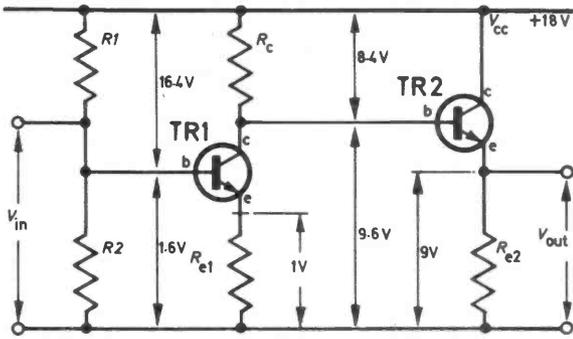

Fig. 9.2d. An example of a two-stage circuit using direct coupling between the stages.
9.2. Study the circuit in Fig. 9.2d in which direction would the output voltage move if, (a) R_{o2} increased in value (b) R_o increased in value (c) R_1 increased in value.